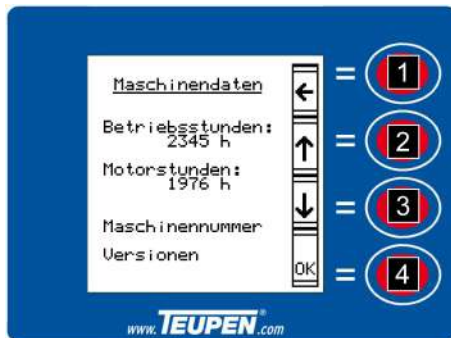

Fig. 61: Machine data
1. ➔ Using the *[function keys]* (Fig. 61/2 and 3) select a sub-menu.
2. ➔ Using the *[function key]* (Fig. 61/4) jump into the selected sub-menu.
3. ➔ Using the *[function key]* (Fig. 61/1) return to the *[main menu]*.